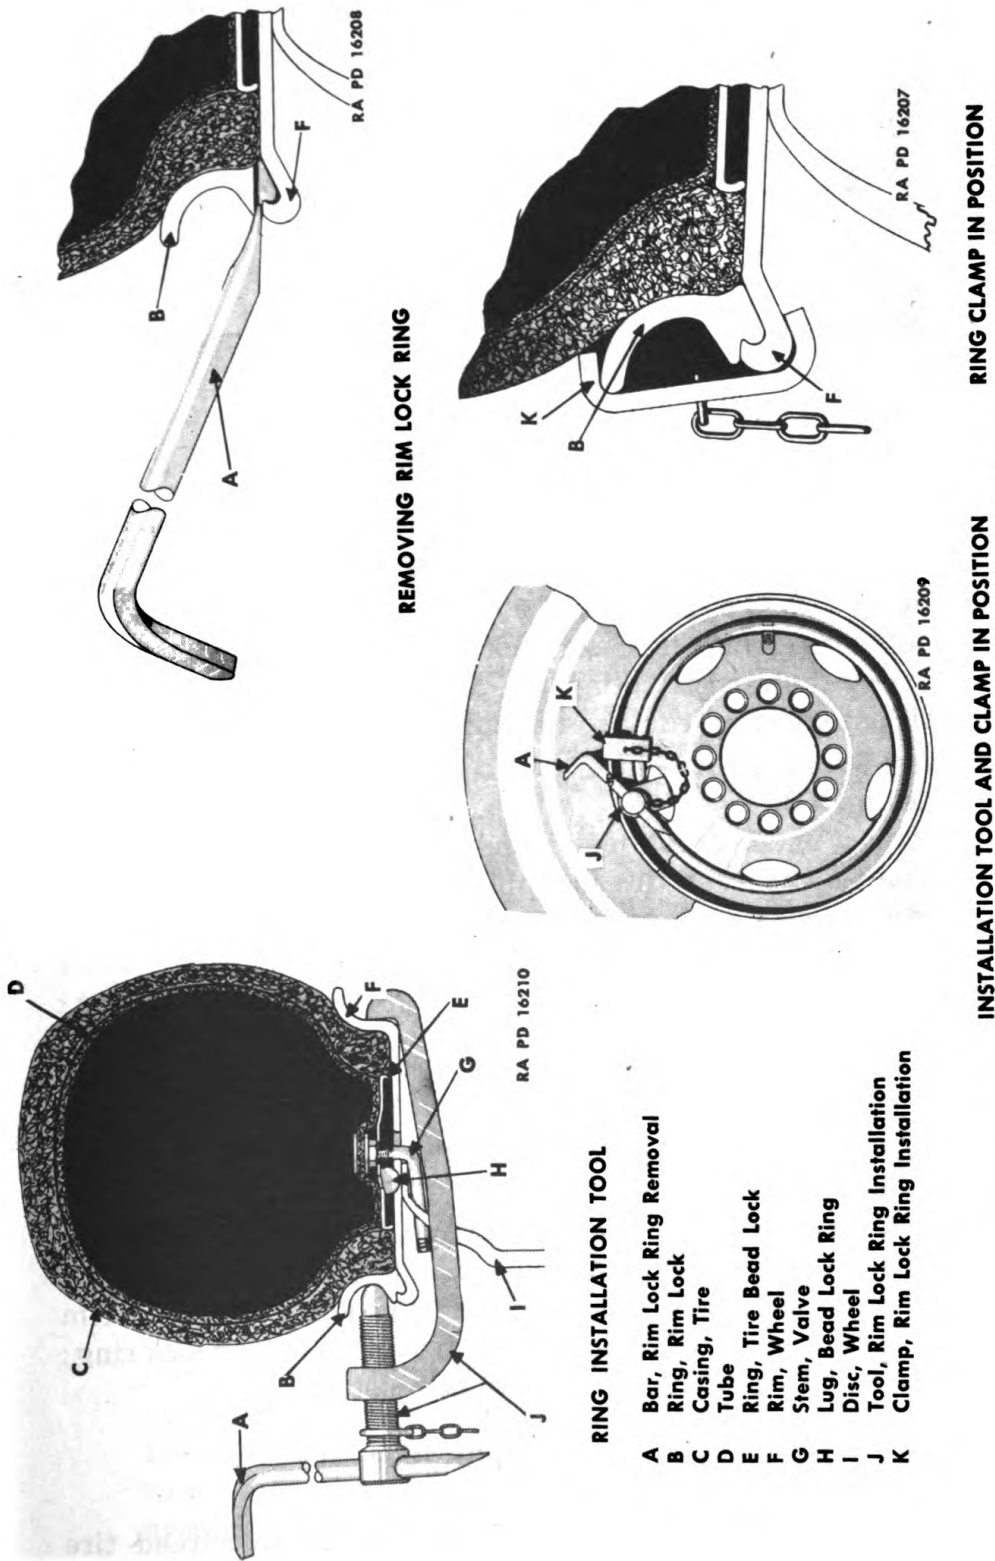

Figure 188—Tire Installation and Installation Tools
c. Tire Removal Procedure (See Figs. 188 and 189)
(1) Remove tire lock ring